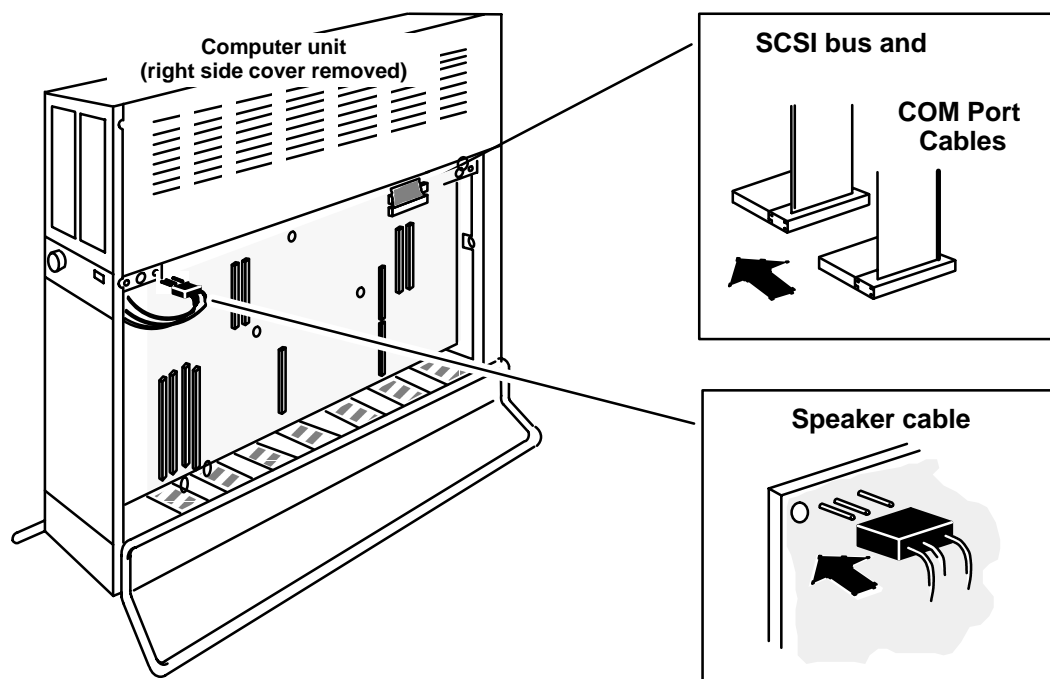

Figure 10-15 Plugging Cables into the System Board
11. Plug the SCSI bus, COM port, and speaker cables into the system board as shown in Figure 10-15.